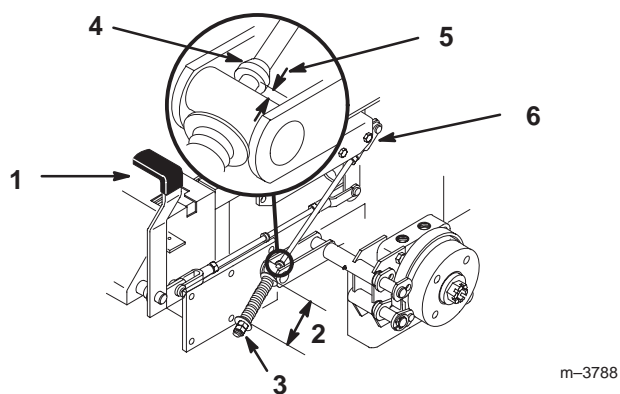

Figure 59
2. Measure the length of the spring. Measurement should be 2-3/4 inch (70 mm) between washers (Fig. 59).
3. If adjustment is necessary, loosen the jam nut below the spring and tighten the nut directly below the yoke (Fig. 59). Turn the nut until the correct measurement is obtained. Tighten the two nuts together and repeat on opposite side of unit.
- A. Measure the distance between the trunnion roller and the collar on brake rod. Measurement should be 3/16-1/4 inch (5-7 mm) (Fig. 59).
6. If adjustment is necessary, loosen the jam nut directly below the yoke. Turn the bottom rod until the correct measurement is obtained (Fig. 59). Tighten jam nut at yoke